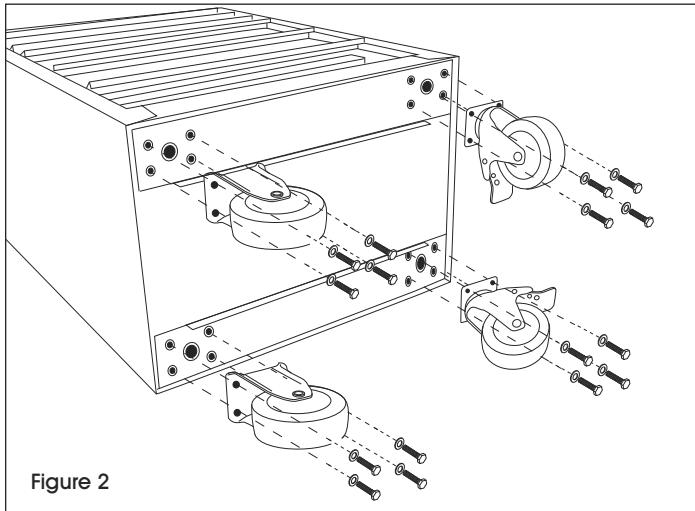

Figure 2
2. Align caster bolt holes with holes on the tool cabinet. (See Figure 2)